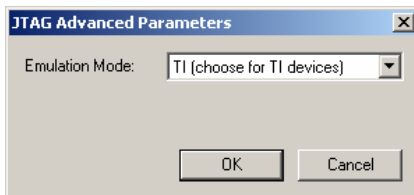

FIGURE 8 Selecting the emulation mode for OMAP.
3. Click the Advanced Parameters button and select the TI mode from the Emulation Mode drop-down list (see Figure 8).